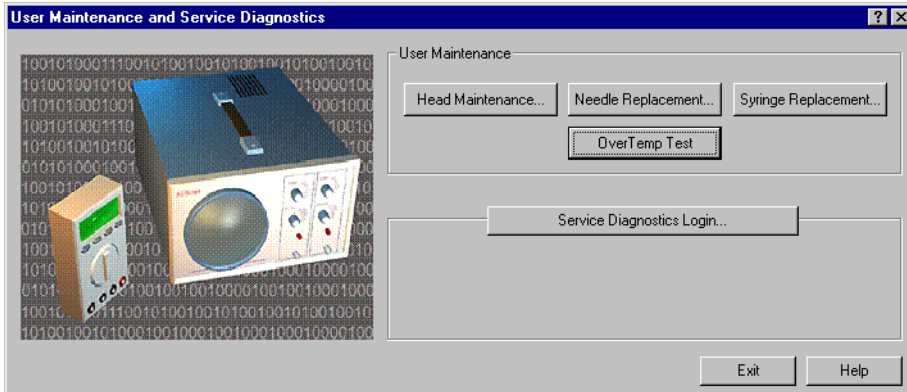

Figure 4-11 User Maintenance and Service Diagnostics Dialog Box
3. Click Diagnostics, in the lower-right corner, to open the User Maintenance and Service Diagnostics dialog box (Figure 4-11).
2. Click  (Diagnostics) in the Interactive Mode window (Figure 3-3), and then click Diagnostics to open the User Maintenance and Service Diagnostics dialog box (Figure 4-11).